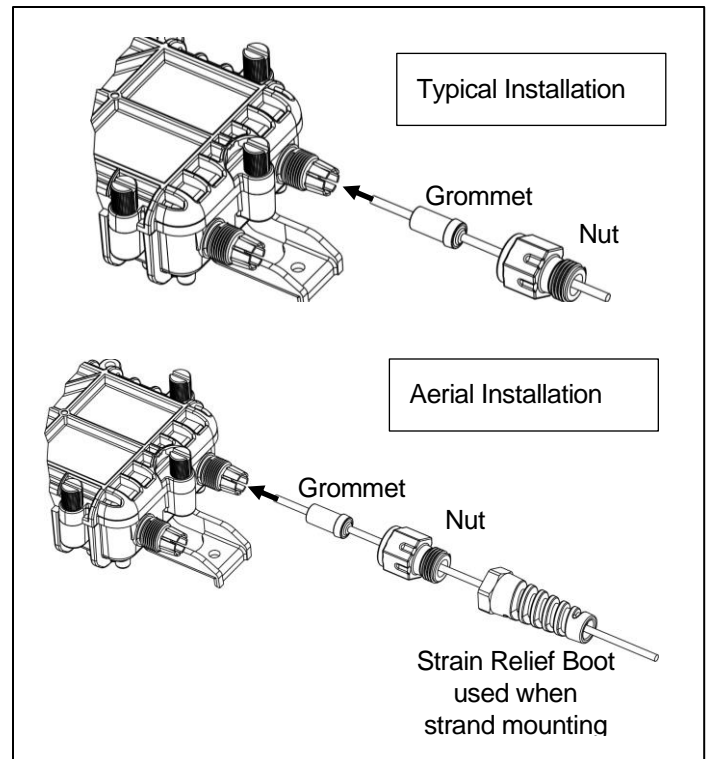

Figure 5. Fiber installation at ingress port
- ③ Referring to Figure 5 to ensure proper orientation, slide the nut onto the cable past the first mark. Follow with the grommet sliding it up to the first mark. Dampening the cable with water can assist with sliding the grommet onto the cable.
- ③ Be sure to place the strain relief boots on the fiber optic cable as shown in Figure 5 before feeding cable into the LOCDROP enclosure.